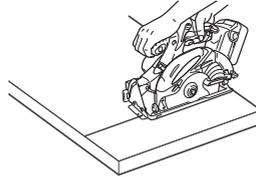
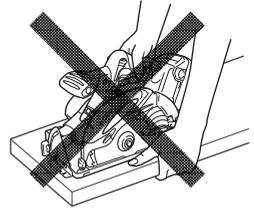

Fig. 5
Fig. 6
31. Place the wider portion of the saw base on that part of the work piece which is solidly supported, not on the section that will fall off when the cut is made. As examples, Fig. 5 illustrates the RIGHT way to cut off the end of board, and Fig. 6 the WRONG way. If the work piece is short or small, clamp is down. **DON'T TRY TO HOLD SHORT PLACES BY HAND!**